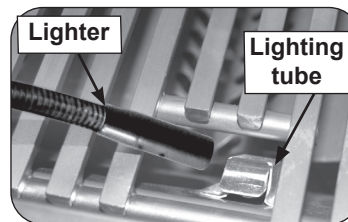
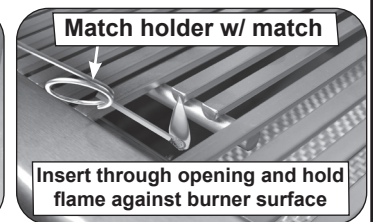

Fig. 29-2 Manual lighting via lighting tube
Fig. 29-3 Manual lighting via match holder
**CAUTION:** Always wait five (5) minutes for gas to clear after any unsuccessful lighting attempt.
2. Insert either a burning long-barrel butane lighter or a burning long-stem match through the cooking grid opening to the top of the lighting tube (see Fig. 29-2). For backburners or infrared burners, hold the flame against the surface of the backburner/infrared burner. For side burners, hold the flame against the burner. Grills equipped with an infrared burner include a wire extension match holder (attached to drip tray) to assist with manual lighting (see Fig. 29-3).
4. If the burner does not light within five (5) seconds of turning the control knob, **immediately depress the knob and turn the valve to OFF**. **WAIT FIVE (5) MINUTES** before repeating steps 2 through 4 of the **MANUAL LIGHTING** instructions.